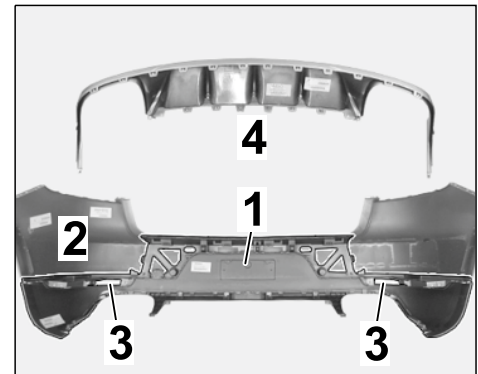

Figure 17
4.2 Install new painted rear skirt in rear apron (⇒ *Figure 17*; ⇒ *Workshop Manual '636819 Removing and installing rear skirt*)
4.5 Install new painted rear panel (⇒ *Figure 17 -4-*) (⇒ *Workshop Manual '635619 Removing and installing rear panel*)